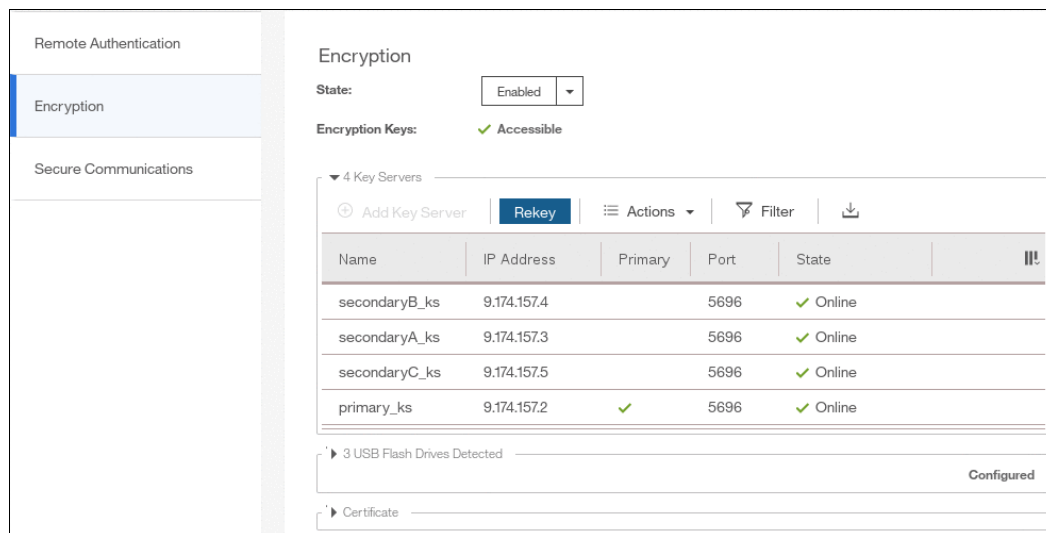

Figure 13-75 Start rekey on SKLM key server
2. Click **Rekey**, as shown in Figure 13-75 on page 755.